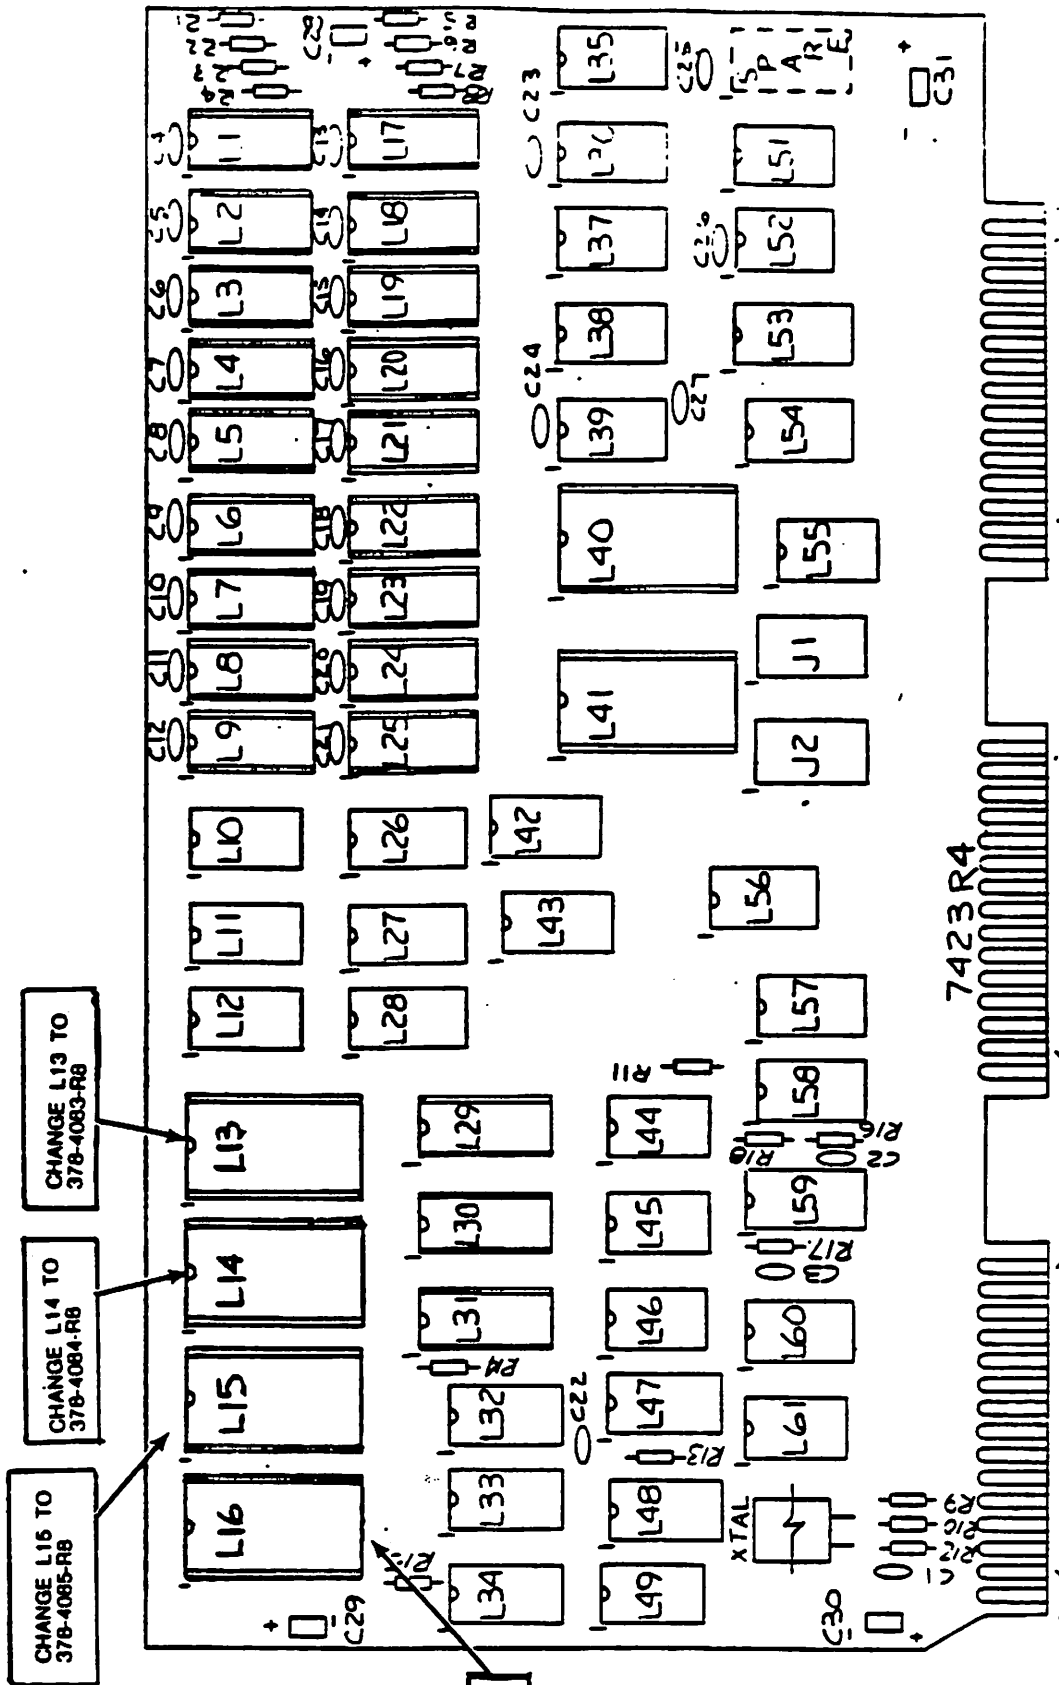

FIGURE 2
- D. Refer to Figure 2. Change PROM's on the 210-7423-A PCA as follows: